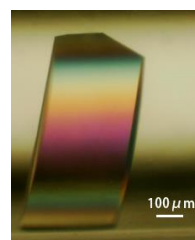

Fig. 3
5. Change the reservoir solution from #2 to #3: 25% PEG 4000, 0.7 M NaCl, 50 mM acetate buffer pH 4.5. The crystal is growing larger. By using higher PEG solution, X-ray diffraction data of higher resolution is expected (Fig. 3).